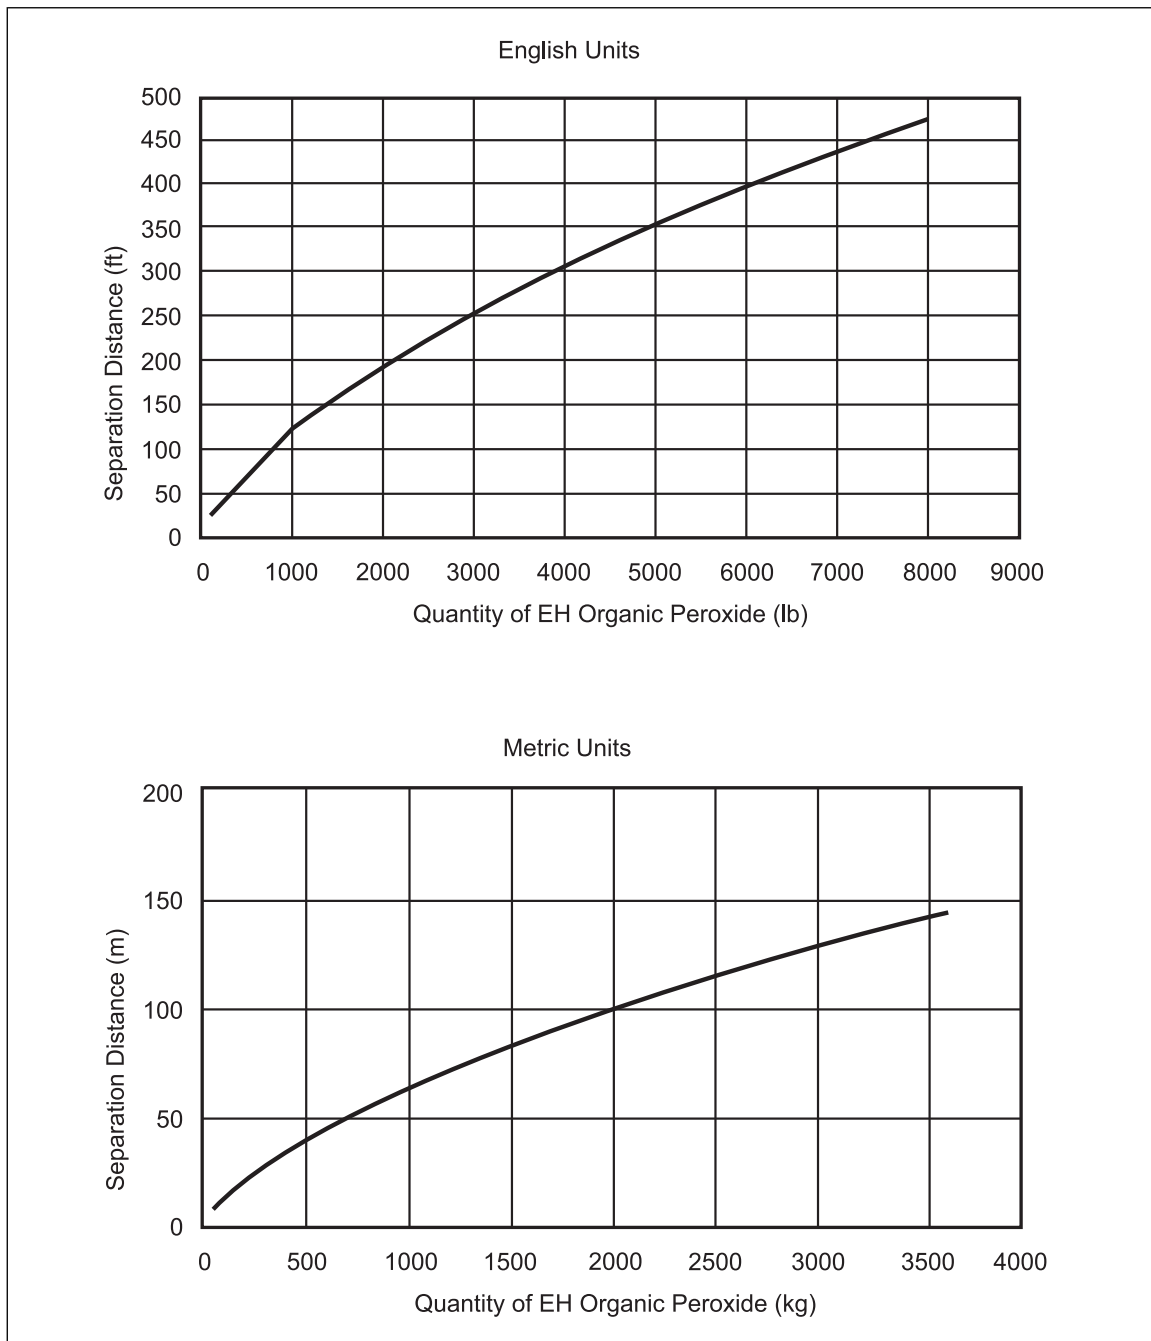

Fig. 2. Minimum separation distance for EH materials in detached storage
2.9.2.2.1 Locate detached storage areas containing EH materials in accordance with Figure 2.